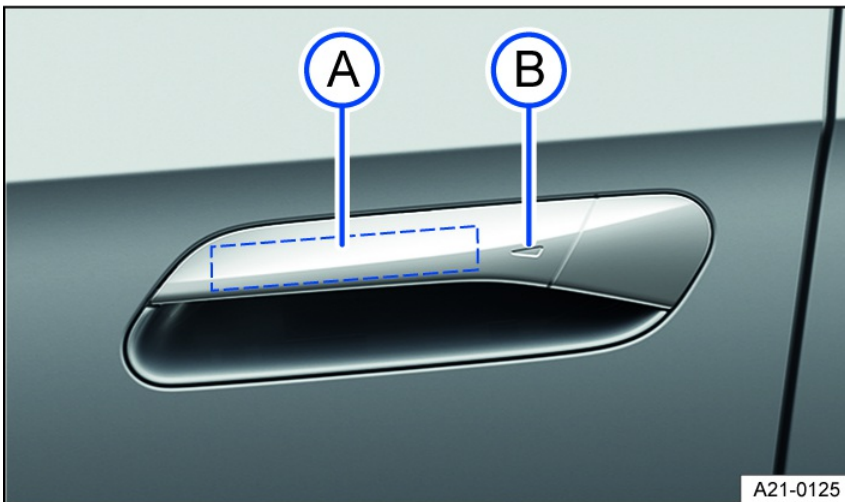

Fig. 44 In door handle: sensors.
1. Touch the sensor on the inside of the door handle fig. 44.
2. Touch the sensor on the outside of the door handle fig. 44.
2. Within five seconds of locking the vehicle, touch the sensor on the outside of the door handle once fig. 44.